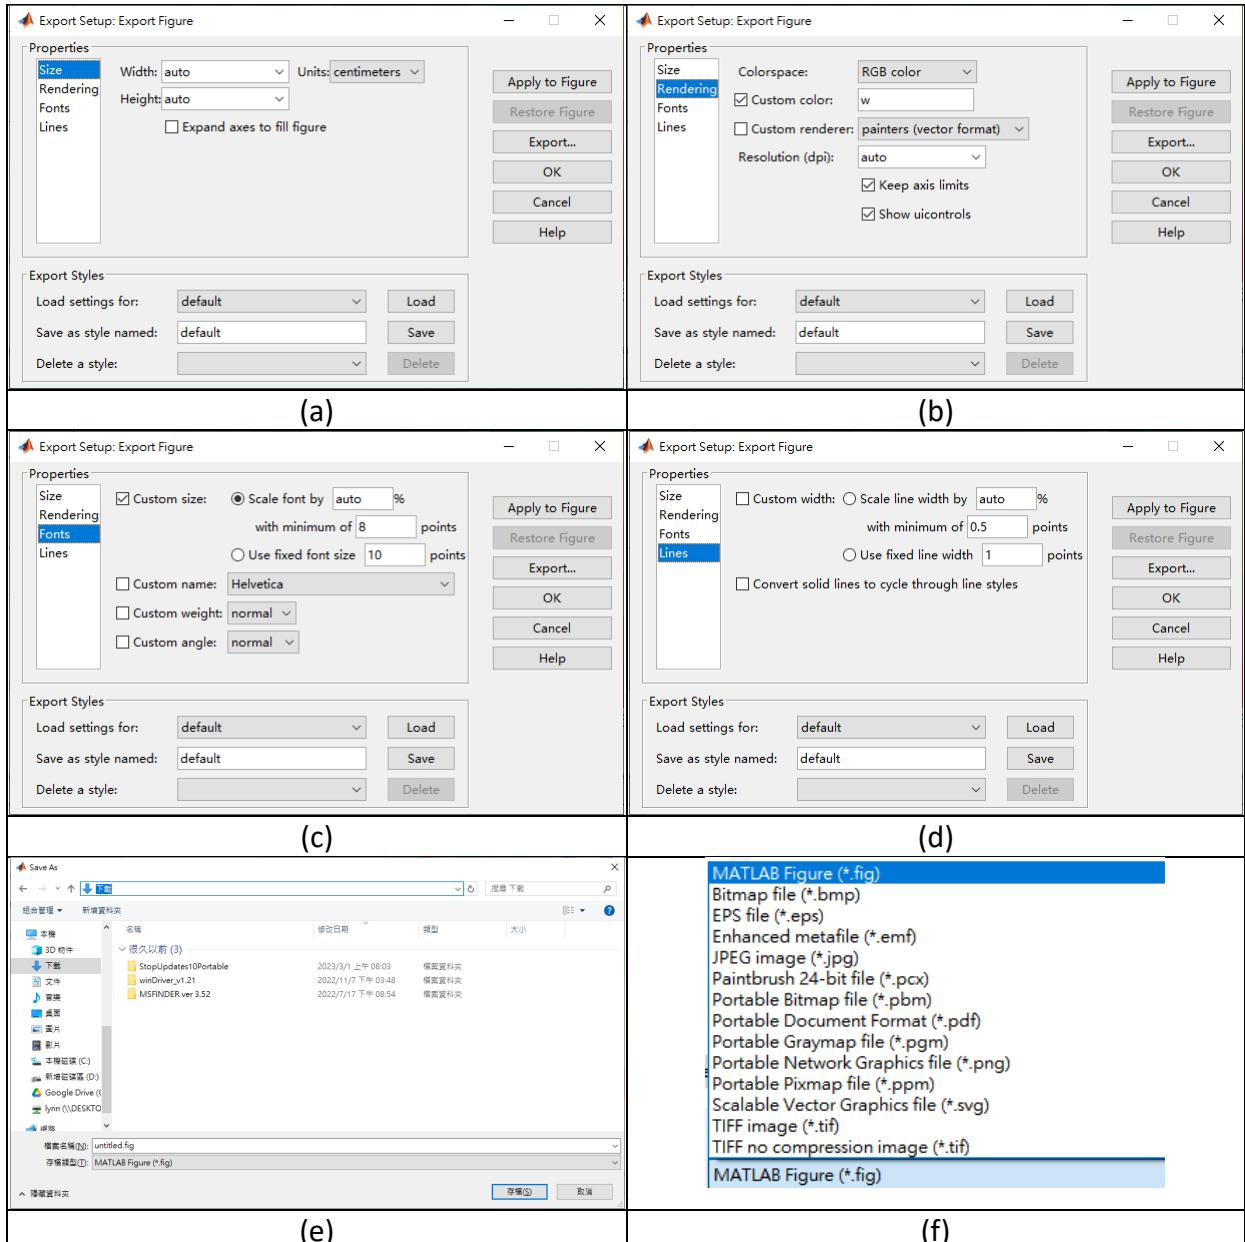

Figure 13. The windows to export the heatmap image.
- 7 Export the heatmap plot:** The quantitation heatmap can be exported to an image file by pressing the “Export Plot” button on the top of the heatmap. A window will pop up to let the user to adjust the size of the image, as shown in Figure 13(a). By clicking on the Rending in the left panel, the user can also select the color space, background color, renderer, and resolution, as shown in Figure 13(b). By clicking on the Fonts in the left panel, the user can change the font properties in the plot, as shown in Figure 13(c). By clicking on the Lines in the left panel, the user can also change the font properties in the plot, as shown in Figure 13(d). After the all the changes are made, the user can click on the “Export” button in the righthand side, a new window will appear to select the folder and file name of the output image as well as the image format, as shown in Figure 13(e). The supported image formats are listed in Figure 13(f).
There are three more buttons at the right-hand side of the correction methods. The “More >” button is used to show the same compound found in the other ion chromatograms. Once pressed, the text of the button will be changed to “Less <” and an additional panel (panel (c) in Figure 17) will appear to show such plots, as shown in Figure 30. This panel shows the overlapped peaks (zoomed-in horizontally) of all sample files at the top and the detected peak in individual file below for easy inspection of the same compound across sample files. The plot of overlapped peaks is useful in checking the consistency of the compound across all the sample files. To remove the panel, the user can press the “Less <” button. The user can further use the four buttons next to the overlapped plot to zoom out the peaks horizontally to the original RT range, to zoom in the peaks horizontally to the detected peaks only, to normalize the peak heights, and to resume the original heights, as shown in Figure 31. The “Export” button is used to export the ion chromatogram to an image file. Similar to the export of heatmap, once the button is pressed, a window will appear to let the user to choose rendering methods, line width, font type and size, resolution, image format, and file name of the image (refer to Figure 13 for details). Finally, the “Close” button is used to close the “Multiple Reaction Monitoring” window.